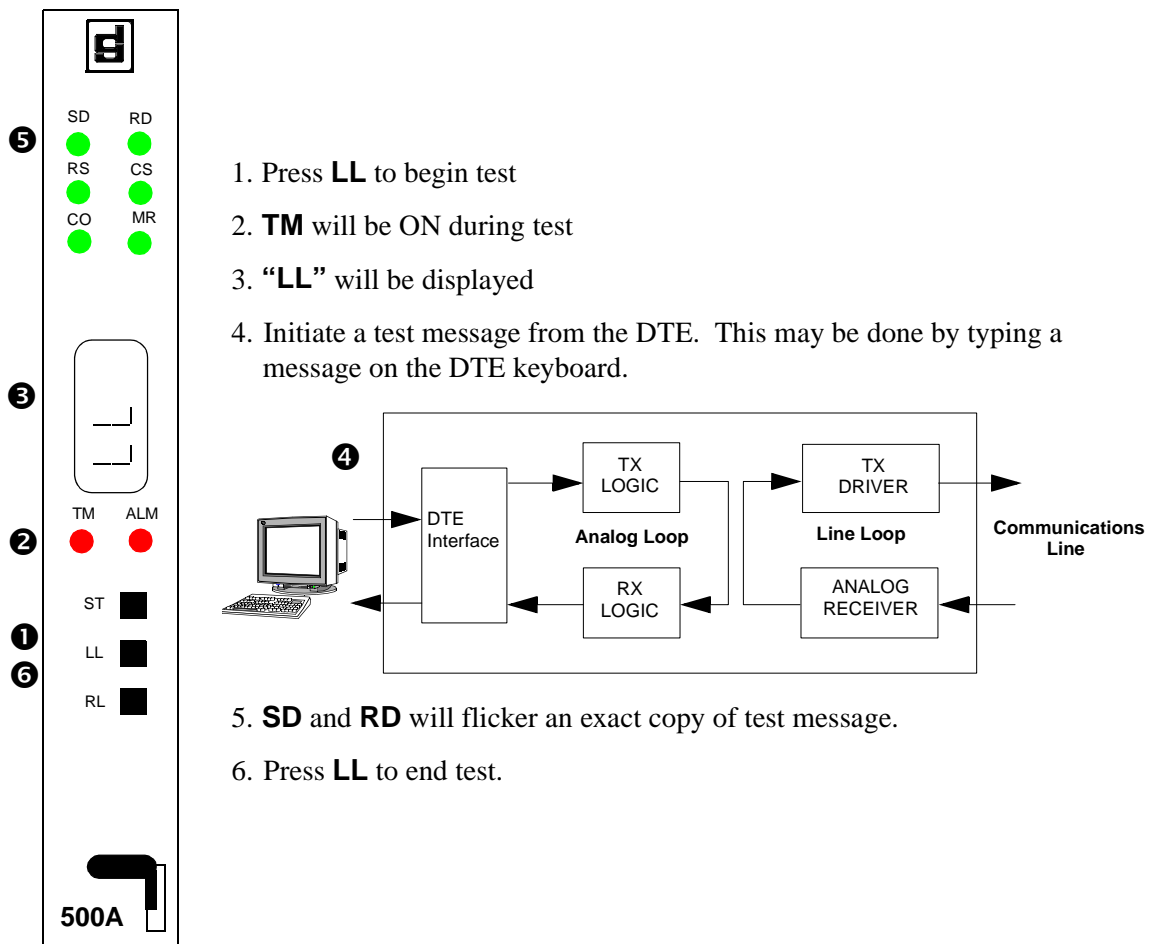

Figure 4-2 Line Loopback Test
Line Loopback (LL) checks the performance of the DSU and its associated DTE. The DSU disconnects its DTE interface transmitter and receiver from the communications line, then connects them together, creating a circuit similar to an Analog Loopback circuit that loops signals from the transmitter through the receiver. It also connects the transmit and receive pairs together, creating a circuit (the Line Loopback circuit) that loops received signals back over the communications line to the remote DSU. Figure 4-2 illustrates LL.